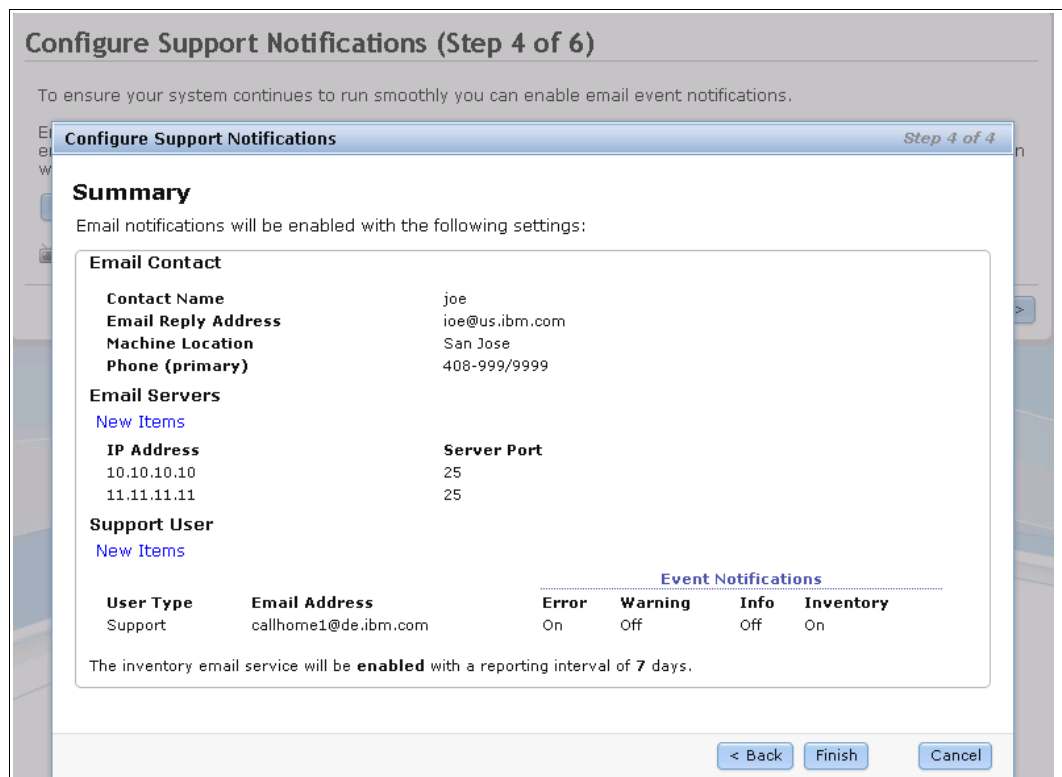

Figure 2-21 Email and event configuration - Verify email addresses and finish the configuration
- Click **Next** to verify the email configuration and click **Finish** (Figure 2-21).